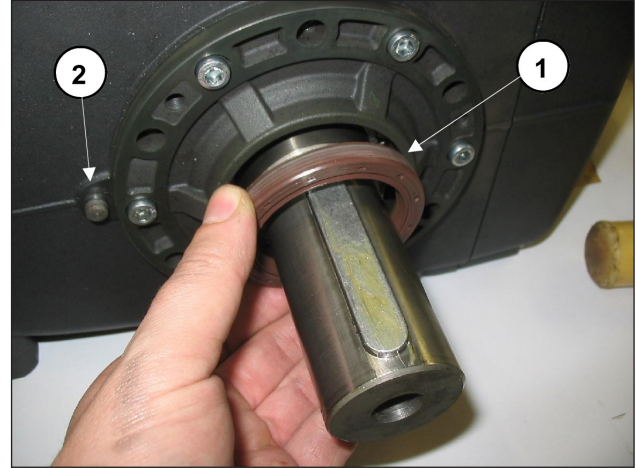

Fig. 33
To modify the version, fitting the reduction unit where it has not been contemplated, you need to remove the shaft oil seal (Fig. 33, pos. ①) and insert on the casing the reduction gearbox reference pin Ø8 (Fig. 33, pos. ②). Then proceed with the operations specified in par. 2.1.5. When modifying the version, removing the reduction unit where it has been contemplated, you need to insert the shaft oil seal ring in its seat on the side cover using the tool code 27904800 (Fig. 33, pos. ①).